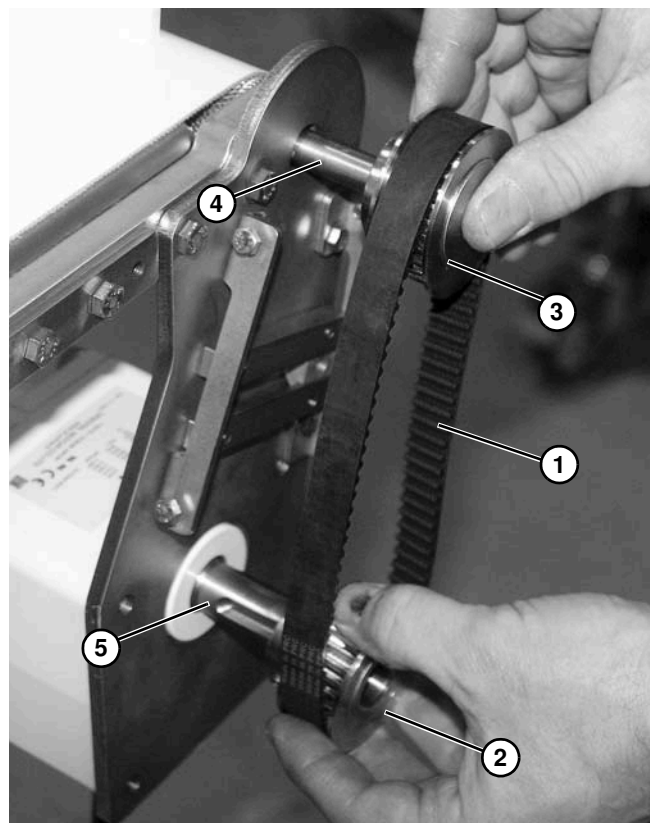

Figure 33
*Make sure sprocket keys are installed on conveyor input shaft (**Figure 33, item 4**) and gearmotor output shaft (**Figure 33, item 5**).*
1. Install timing belt (**Figure 33, item 1**) over drive sprocket (**Figure 33, item 2**) and driven sprocket (**Figure 33, item 3**). Install timing belt and sprockets on conveyor input shaft (**Figure 33, item 4**) and gearmotor output shaft (**Figure 33, item 5**). Do not tighten sprocket set screws.